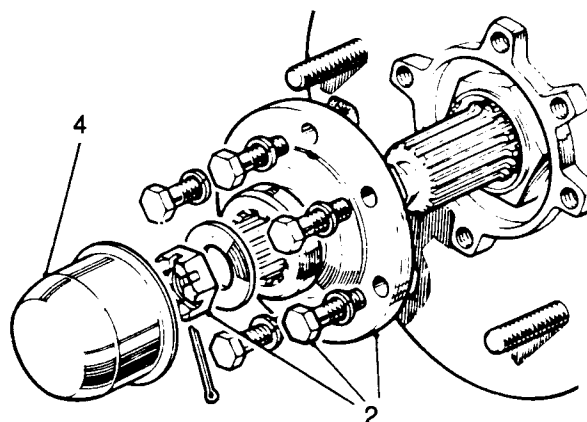

Fig J1.32
- (5) Refer to Fig J1.32. Fit the driving member (2) with the felt and rubber oil seal, fitted with the rubber side facing outwards. Torque load for driving member fixing bolts is 39 N.m. Torque load for stub shaft to driving member nut is 14 to 20 N.m using special tool RO1010 on models with the circular castellated nut.
- (6) Replace the hub cap (4).
- (7) Replace the brake drum and secure with the fixing screws.
- (8) Replace the road wheel.
- (9) Adjust the brakes (see Sub-section K1.3).
- (10) Lower the vehicle to the ground.
- (11) Fill the swivel pin housing with the correct grade of lubricating oil.